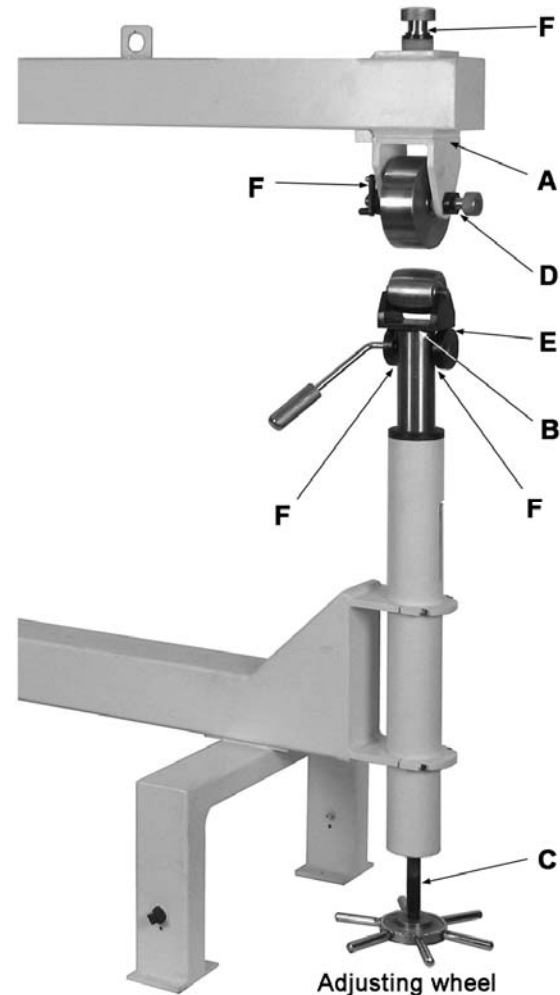

Figure 10
2. Turn the *upper wheel knob* (A) clockwise to raise the *upper wheel bracket* (B) against the frame as shown.
**Note:** Make sure the *upper wheel bracket* (B) and *frame block* (C) edges are parallel so that they slide past each other when raising the upper wheel bracket. Otherwise, they may bind.
3. Check the distance between bottom of the *upper wheel* (D) and top of the *lower wheel* (E). They should be about an inch apart. To adjust the distance, rotate the *adjusting wheel* (shown in Figure 10) to raise or lower the *lower wheel* (E).
6. Rotate the *adjusting wheel* (shown in Figure 10) counter-clockwise until there is light pressure on the workpiece.
Refer to Figure 10: